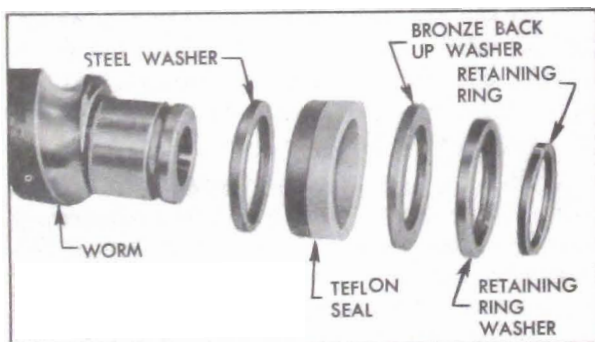

Figure 8-32—Worm Seal Assembly
7. Install steel washer, Teflon seal with rubber toward worm, bronze back-up washer, retaining ring washer, and seal retaining ring on end of worm. Then lubricate the Teflon seal with dynaflo oil. See Figure 8-32.